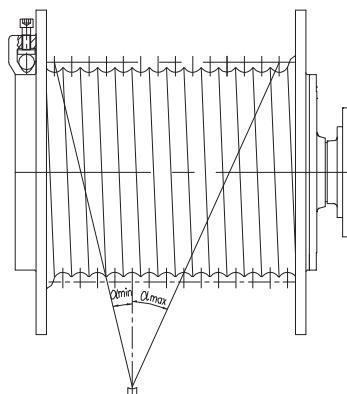

图4/ Figure 4
4.3 为了保证钢丝绳正常缠绕，要求绳偏折角 α 维持在允许范围内（图4），应注意以下几点：
4.3 To achieve acceptable rope winding, the deflection angle α must be kept in the allowable value (figure 4). Attent the following points: